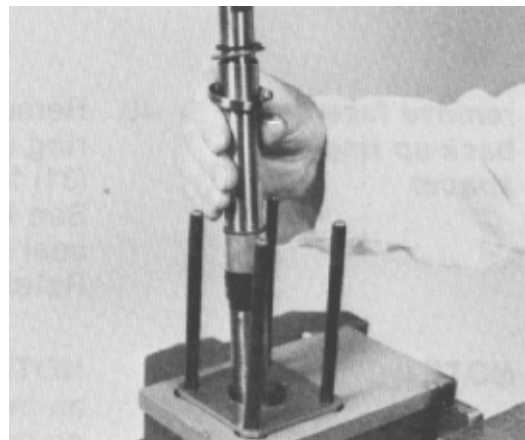

Figure 76
45. Remove the input shaft and snap ring, sliding it out of the upper cover end of the assembly (Fig. 76).